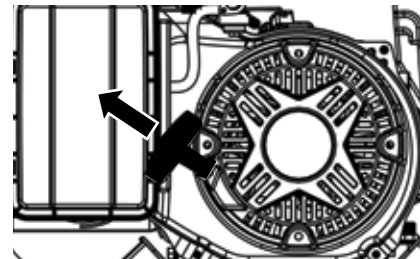

Figure 13 - Engine Recoil Handle - Pull
10. Firmly grasp and pull the recoil handle slowly until you feel increased resistance. At this point, apply a rapid pull while pulling up and slightly away from the generator (see Figure 13).
- Firmly grasp and pull the recoil handle slowly until you feel increased resistance. At this point, apply a rapid pull while pulling up and slightly away from the generator (see Figure 13).